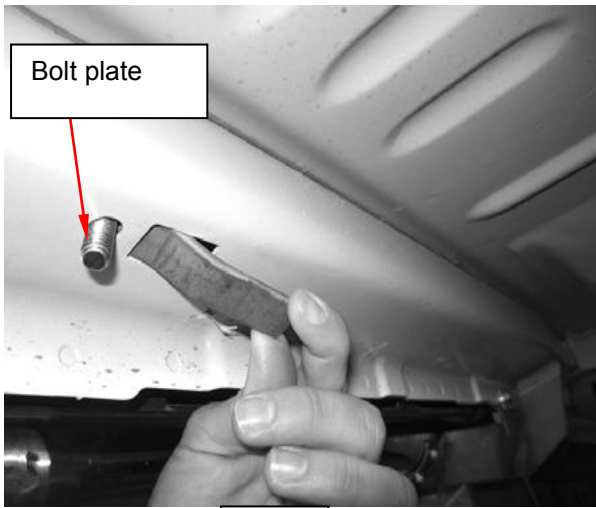

Fig 1
- Starting from rear of the vehicle on the driver side. Insert (1)M10x25 mm Bolt Plate into the rectangular hole located in the side panel, and threaded Bolt Plate drops through round hole(Fig 1).